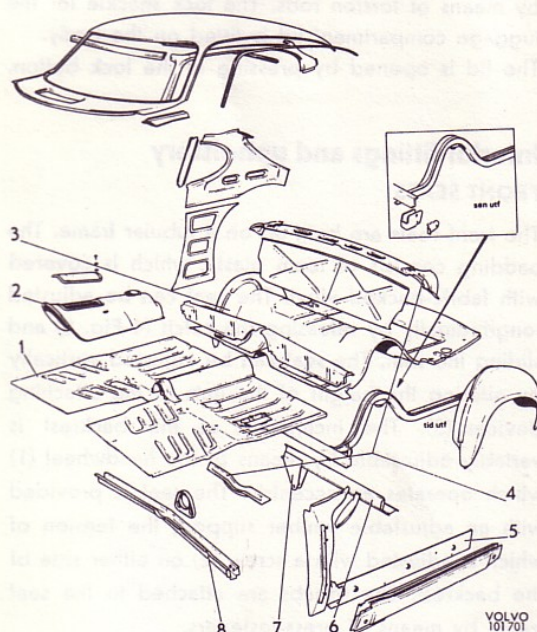
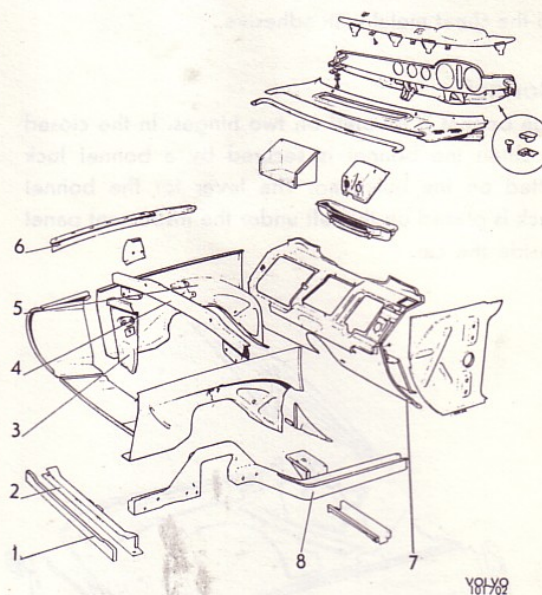

Fig. 1. Floor section.
Fig. 2. Scuttle.
The floor section (Fig. 1) consists of the front and rear floor plates (1 and 3) and inner cantrail (5), front and rear cross-members (8 and 6), tunnel (10) and scuttle (Fig. 2). The floor plates are welded to the rear seat support.
There is a flanged hole in the rear floor plate for attaching the fuel tank, the upper part of which forms part of the floor in the luggage compartment. The scuttle (Fig. 2) consists of the bulkhead (7), wheel arches (5), front upper cross-member (4) and side plate (3) as well as lower cross-members (1 and 2). The bulkhead forms the front transverse wall of the body and has welded end plates. Two front side members (8) project from the front floor section. They are joined together at the front by means of a cross-member (2) and are attached at the rear to the front cross-member under the front seats. Two side members (6) project from the upper corner between the bulkhead and front pillar. They are spot-welded to the front pillar, front side plate and wheel arch plates. The front axle member and bumper support bars are attached to the side members. The roof section consists of a number of plates. The roof plates form the upper part of the scuttle, the windscreen opening and the actual roof.